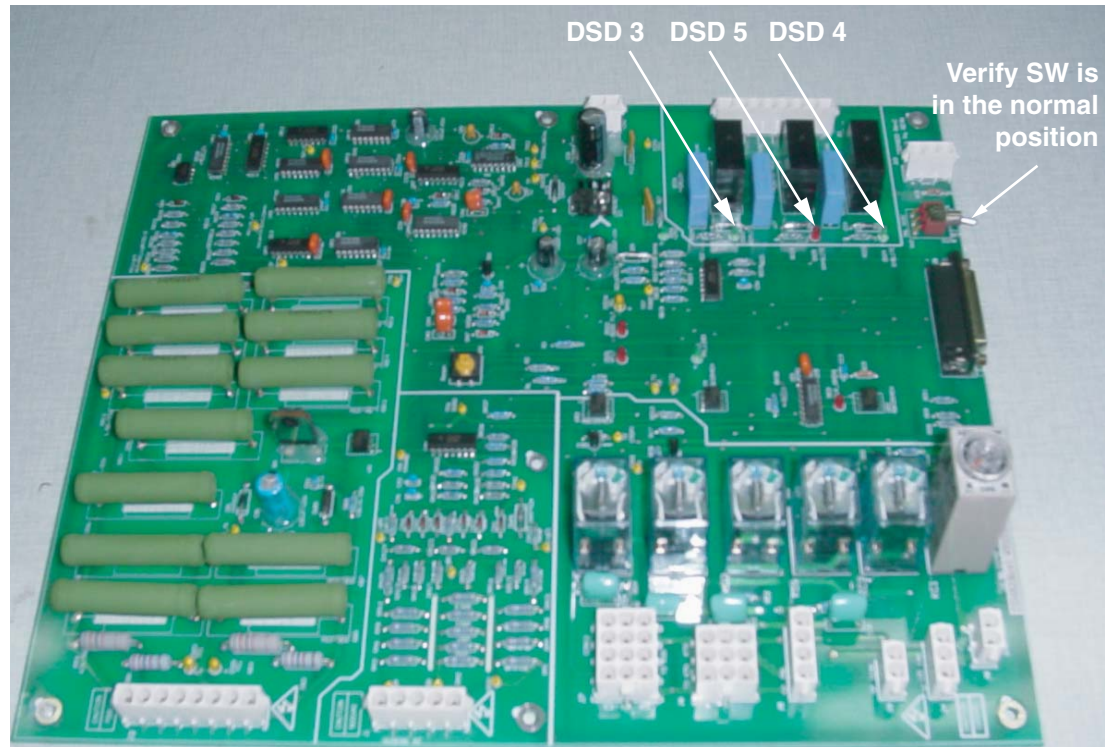

Figure 5-4 NGPDU Control Board
- 2.) When system is already, three lamps are lit (refer to Figure 5-4).